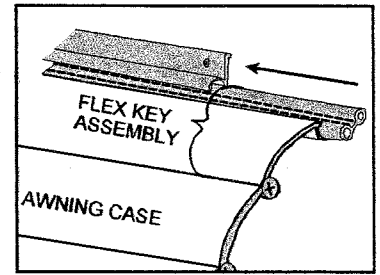

Figure 3
6. Attach the awning to the awning rail by inserting the "bead" of the Flex Key into either end of the awning rail channel. Keep the awning level to avoid binding and hold the awning away from the vehicle to avoid damage (Fig. 3). Gently lower the roller, allowing the fabric to **completely** unroll and hang along the side of the vehicle.